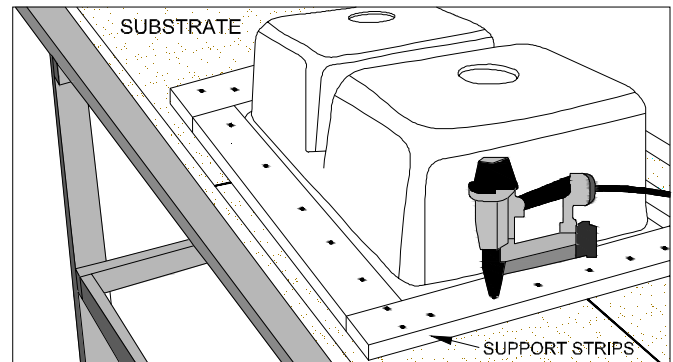

Figure 15A
- Place $\frac{3}{4}$ " thick wood support strips around entire perimeter of sink flange. (FIG. 15A)